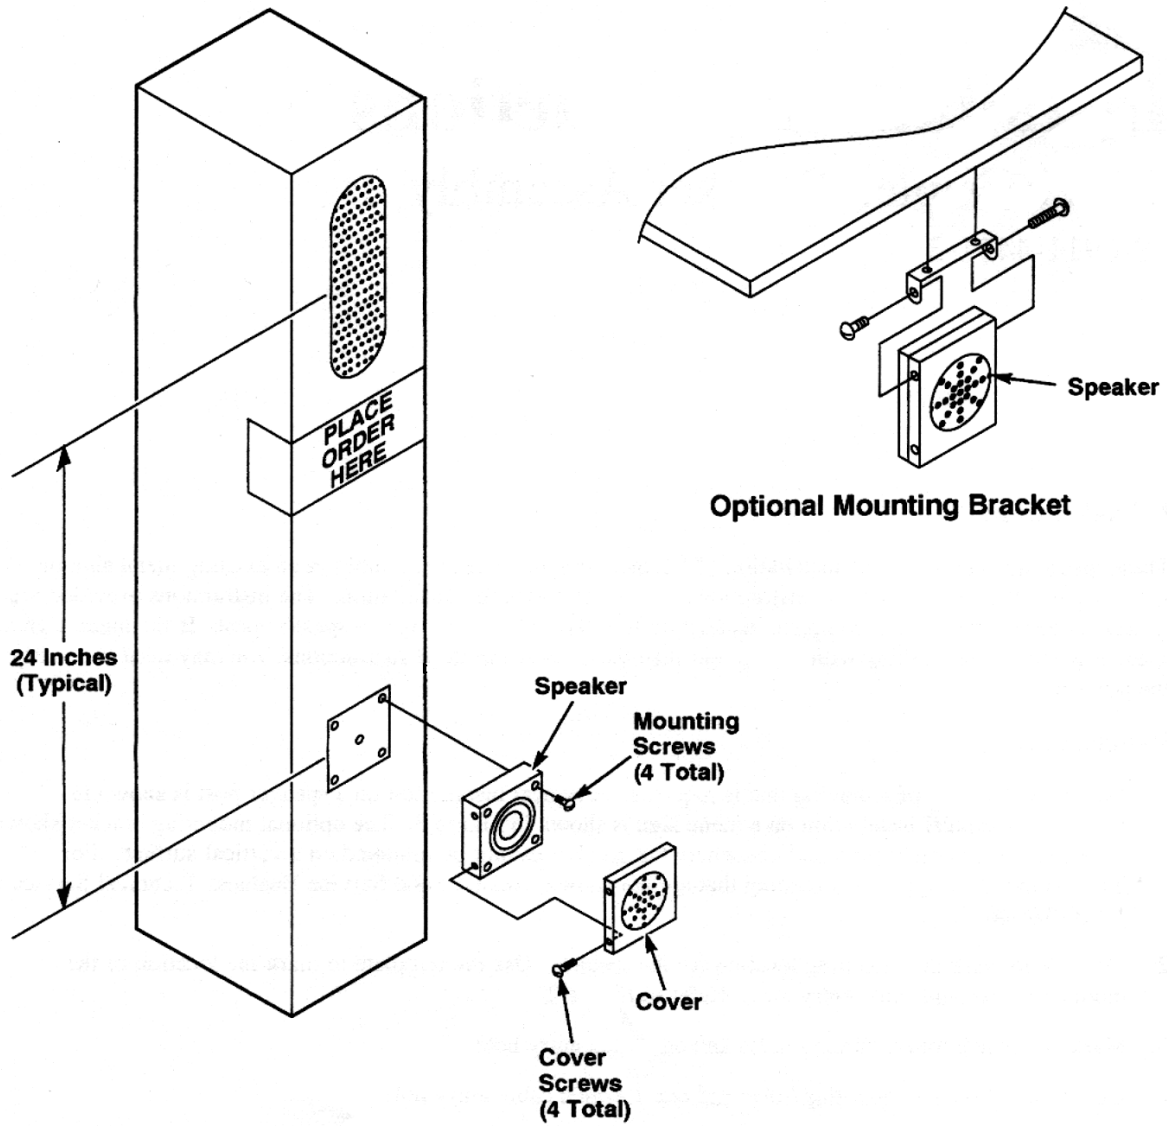

Figure 1. Typical Installation on a Speaker Post
1. Determine the type of mounting that is required. A typical installation on a speaker post is shown in Figure 1. The optional mounting bracket shown in Figure 1 is provided for situations where the speaker cannot be mounted on a vertical surface. For information about types of mounting that are not shown, contact 3M Food Service Business Technical Service at (800)328-0033.